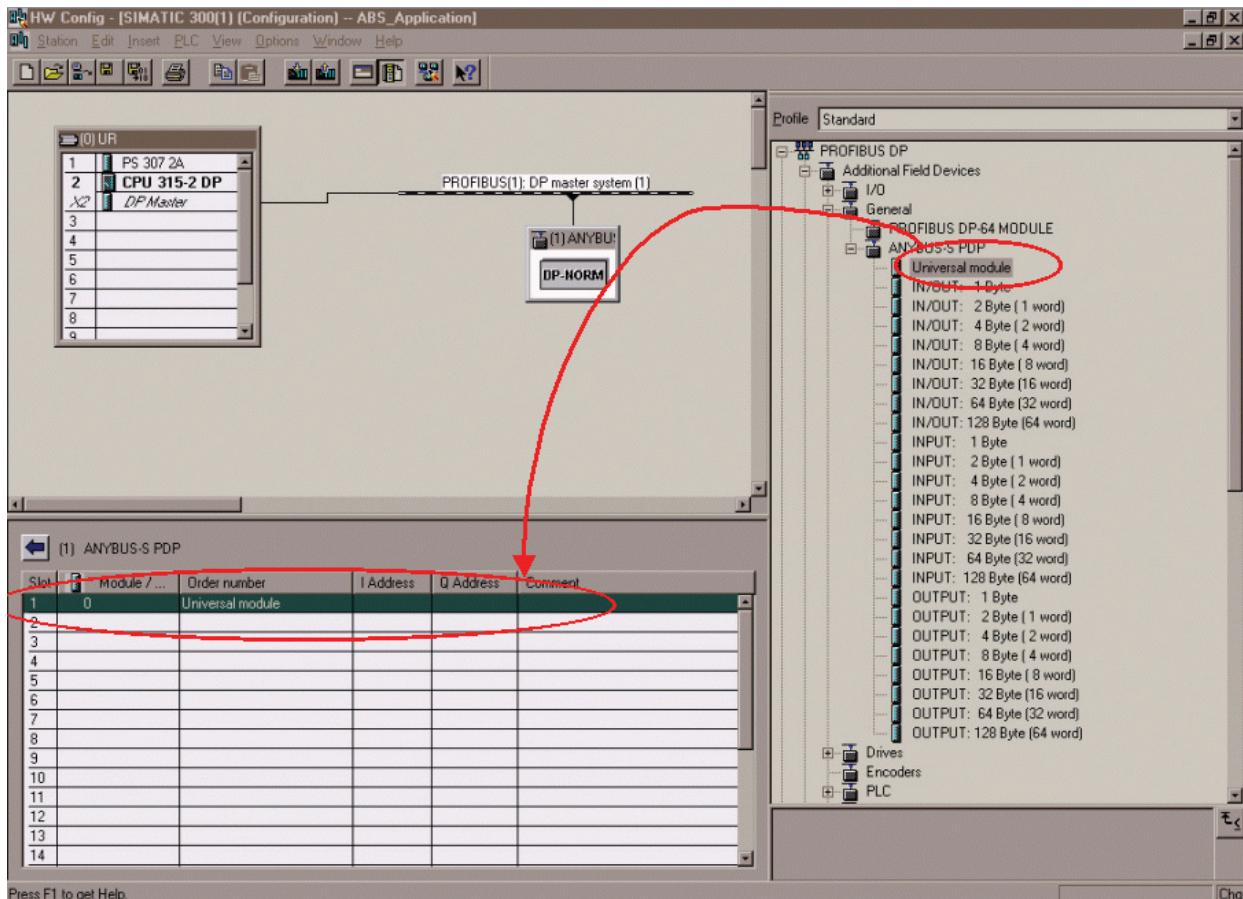
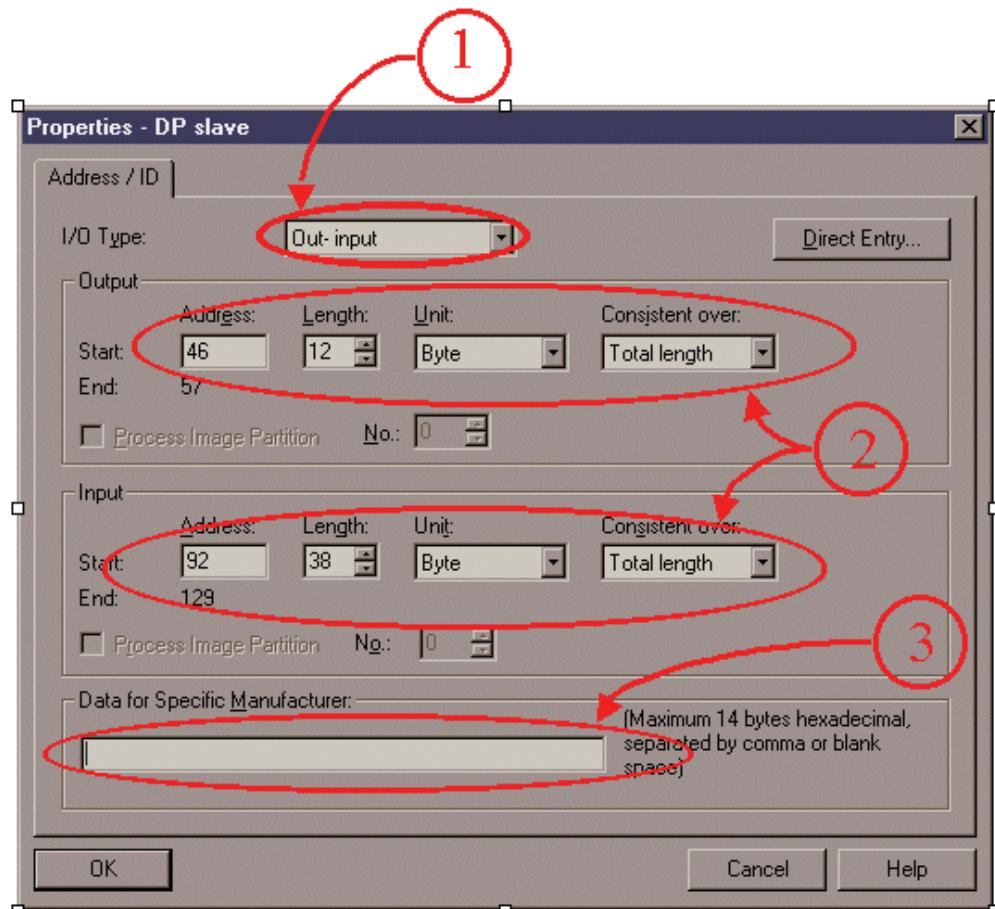
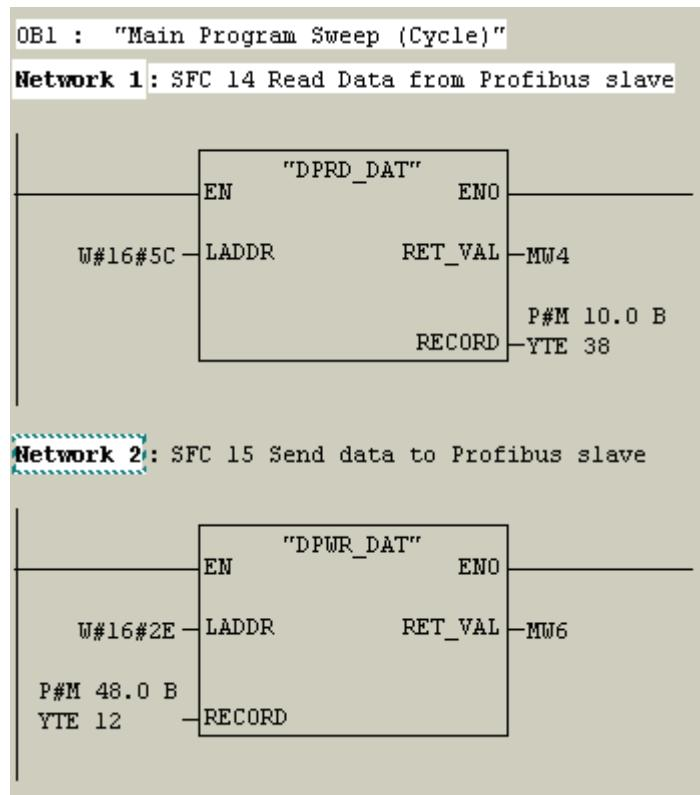

Figure 16 Selecting the Universal module for consistent data transfer.
Figure 17 Specifying the properties for the Universal Module.
Figure 18 The use of the SFC14 and SFC15 in the PLC program.
The first thing that has to be done is to specify the consistent data area in the hardware configuration. The “Universal Module” can be selected with “drag and drop” as shown in Figure 16.
In Figure 17 it is shown how to set the properties of the Universal Module. This window is opened by double clicking on the Universal Module line in the list of selected modules. The desired data type (In, Out, or In/Out) is set with the list box shown at ①. Then the offset, length, unit and consistency settings can be done as shown at ②. In the example below the output data length is set to 12 bytes and the input data length set to 38 bytes with consistency over the total length. The address offsets are set to 46 respective 92.
To read out the consistent data specified in Figure 16 and Figure 17 a PLC program has to be written that uses SFC14 and SFC15. An example of this is shown in Figure 18. These two SFC:s are included in the Step7 standard package and they also have to be imported into the active project. They can be copied from the “Standard Library” or from the CPU online. Refer to the Step7 documentation for details regarding this.
The function blocks ensure that data consistency is secured over the complete data length. Where the data is to be read or put in the process image is decided in the hardware configuration, see Figure 17.
LADDR: specifies the start byte address of the data to be read. The value is entered in Hex. In this case the start byte address is 92 (=5C Hex) which can be found at ② in Figure 17.
RECORD: This is where the data is copied to. In this case it is copied to memory byte 10 to 47. (i.e. MB10-MB47). The length must equal the length set at ② in Figure 17.
LADDR: specifies the start byte address of the data to be sent. The value is entered in Hex. In this case the start byte address is 46 (=2E Hex) which can be found at ② in Figure 17.
RECORD: This is where the data is read from. In this case it is read from memory byte 48-59. (i.e. MB48-MB59). The length must equal the length set at ② in Figure 17.
In the example below (Figure 18) it is described how the PLC program can be done.